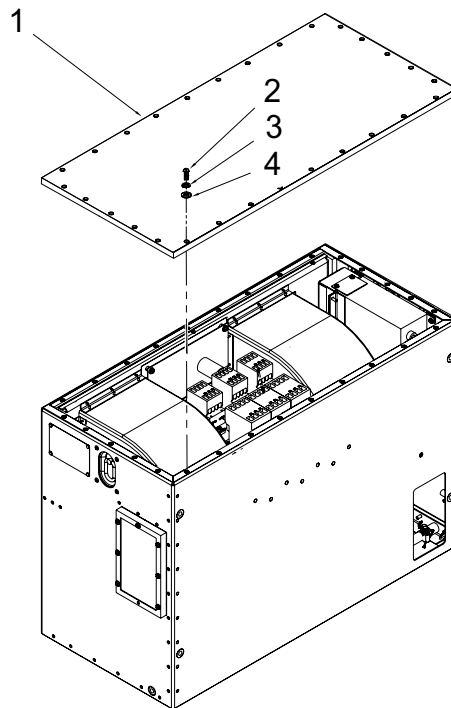

Figure 2. EVAPORATOR TOP COVER.
1. Remove screws (2), lockwashers (3), and flat washers (4). See Figure 2.
2. Carefully lift the top cover (1) from the Environmental Control Unit.
1. Line up screw holes in cover and Environmental Control Unit housing. See Figure 2.